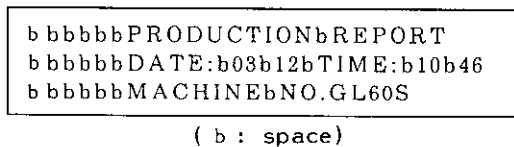

Fig. 5.4 Example of Printing
Data transmission to ASCII devices (a printer in this example) is described here. Suppose the character lines in Fig. 5.4 are to be printed.
(4) Operation
- ① 10005 goes OFF from ON. At this time, coil 50 is ON and the printing in Fig. 5.4 is performed unless COMM command to the same port is not operating.
- ② One scan of coil 52 is ON when printing is completed.